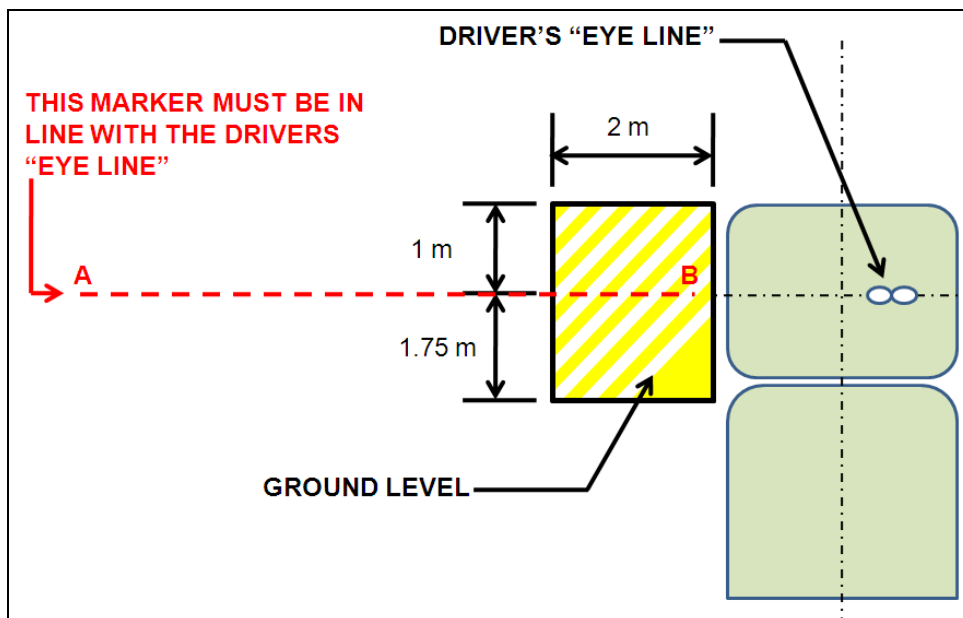

Figure 1: Field of vision of Class V close-proximity mirror. (All dimensions in millimeters).
6. For vehicles that must be tested for a close proximity (Class V) mirror (i.e. N2 vehicles exceeding 7,500kg DGWV and all N3 category vehicles), check the required field of view of this mirror is as shown in Figure 1 below by ensuring that the hatched area is visible from the driver's seat. The line A-B must be in line with the driver's "eye-line" to ensure a compliant field of view. The field of vision of the close proximity (Class V) mirror must be physically checked using the painted area on the test centre floor and **NOT** using the RSA approved mirror checking tool.
Rear View Mirrors, internal and external	<p>(1) Missing.</p> <p>NOTES:</p> <p>(2) For vehicles first registered since 1st January 2000 if there is no close proximity (Class V) mirror fitted but the hatched area in Figure 1 above can be seen through a combination of the Front and Wide Angle mirrors or other supplementary devices for indirect vision then there is no need for a close proximity (Class V) mirror to be fitted.</p> <p>(3) Vehicles of Class N2 with a DGVW exceeding 3,500kg and not exceeding 7,500kg will not be tested for the presence of either a wide angle (Class IV) or a close proximity (Class V) mirror at this time.</p> <p>In the case of vehicles first registered since 1st January 2000 that are required to have both wide angle (Class IV) and close proximity (Class V) mirrors fitted (i.e. N2 category vehicles exceeding 7,500kg DGVW and all N3 category vehicles) to the passenger's side and don't the following will apply:</p> <ul style="list-style-type: none"> If the vehicle owner can provide evidence that a supplementary device for indirect vision fitted instead of the mirrors fulfils the requirements of Directive 2007/38/EC there is no need for either of these mirrors. <p>(4) Reflecting surface deteriorated or broken so as to impair the driver's view.</p> <p>(5) Unsuitably placed or not designed to give an adequate view to the rear.</p> <p>(6) So designed that it may cause undue injury in accidents.</p> <p>(7) Head or mounting loose.</p> <p>(8) Mirror not adjustable.</p> <p>(9) Ambulance, goods vehicle, passenger vehicle for more than 8 passengers (excluding the driver's seat) not equipped with two rear view mirrors.</p> <p>(10) For goods vehicles, and passenger vehicles for more than 8 passengers one of the required rear view mirrors is not fitted externally on the right hand side.</p> <p>(11) At least 85% of the Class V mirror diagram (Figure 1) cannot be seen when seated in normal driving position.</p> <p>(12) An incorrect radius of curvature of the wide angle (Class IV) mirror, i.e. the radius must not be less than 300mm nor greater than or equal to 400mm. The RSA Mirror Checking Tool must be used to perform the check.</p>